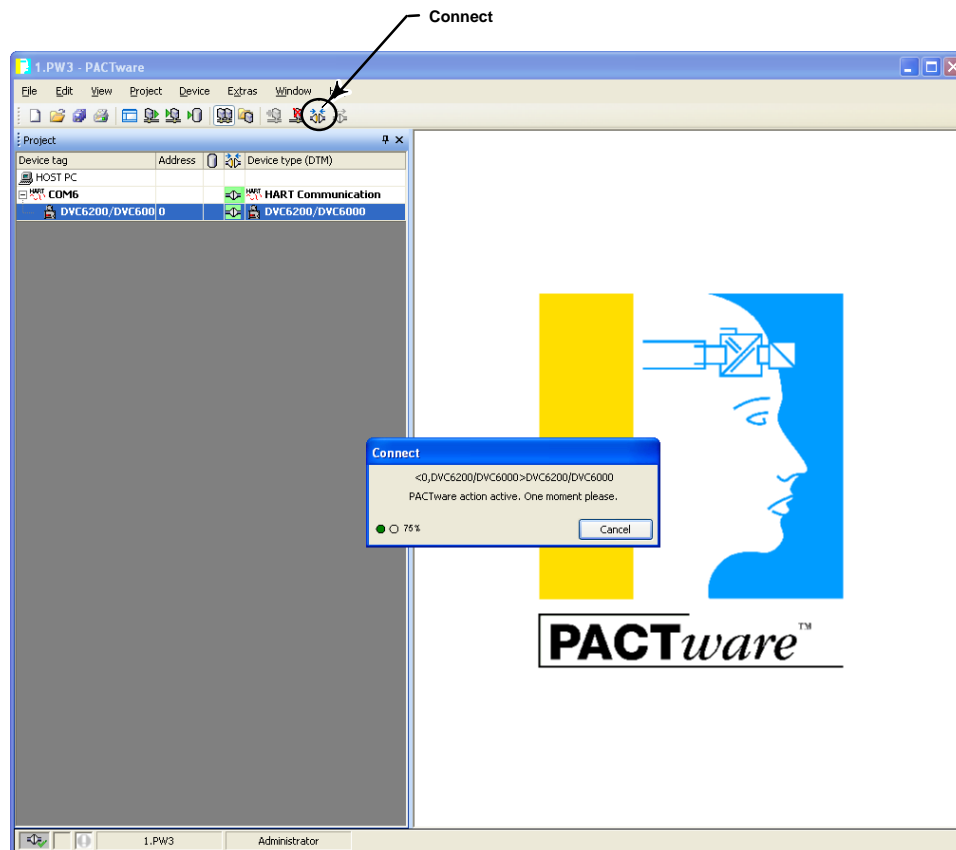

Figure 4-5. Connect the DeviceDTM
**Step 5:** With the DeviceDTM highlighted, select Connect as shown in figure 4-5.